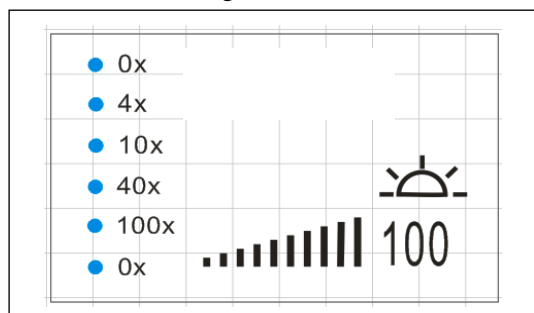

Fig. 20
6. Long press the knob and open the Power: Set up Objective Magnification. (Fig.20). All objective magnification are showed in the LCD Screen, the first number is jumpy. Rotating the knob and stop when the magnification shows which is your request. If you want to set up next magnification, please click knob. Long press the knob mean all magnification are set up.